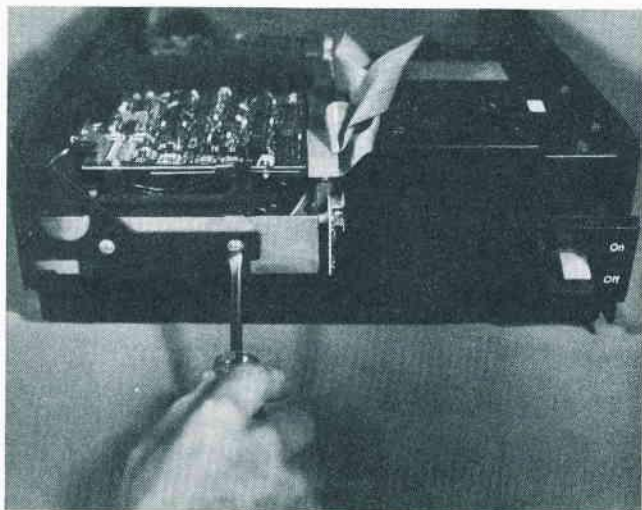

Fig. 5-9. Remove the two silver-colored flat-head screws holding the disk drive to the chassis.
4. Remove the two silver flat-head screws holding the drive tight to the chassis as shown in Fig. 5-9.
21. Replace the two silver flat-head screws on the sides of the drive (refer to Fig. 5-9).
5. Remove the two silver flat-head screws holding the drive tight (refer to Fig. 5-9).